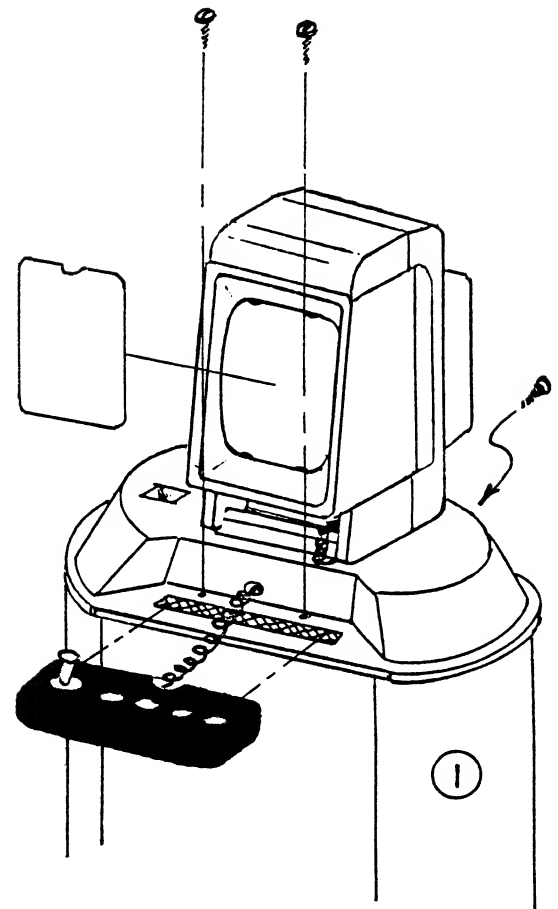

FIGURE 8
13. Using 3,  $\frac{1}{2}$ " long sheet metal screws, fasten the top cover (part #2) to the base unit (part #1), (Figure 8). Note that two of the screws are located at the front of the top cover, and one screw is located at the rear of the top cover. Holes are pre-drilled for the screws.
NOTE: Place overlay for MINE STORM game in slots above and below screen. (Figure 8)